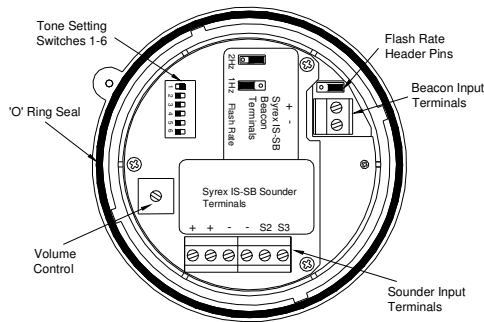

Fig 2 Location of field terminals and controls.
Power is supplied to the sounder section via the sounder input terminals + and - on the sounder PCB (see Fig 2) and the terminals have the following input safety parameters:
Power is supplied to the beacon section via the beacon input terminals + and - on the beacon PCB (see Fig 2) and the terminals have the following input safety parameters:
- Fit the required number of 20mm cable glands or conduit entries into the base and connect the field wiring to the appropriate sounder terminals as shown in section 6 and fig 2 of this manual. The power supply terminals + and - are duplicated so that sounders may be connected in parallel, or an end of line monitoring resistor may be fitted.
- Select the required sounder output tone by positioning the six switches as shown in Table 1 and Fig 2.
- Check that the 'O' ring seal is correctly located on the sounder/beacon section (see Fig. 2) and insert the sounder/beacon section into the base. Push it fully home and turn it clockwise to align the mouldings before tightening the security screw.